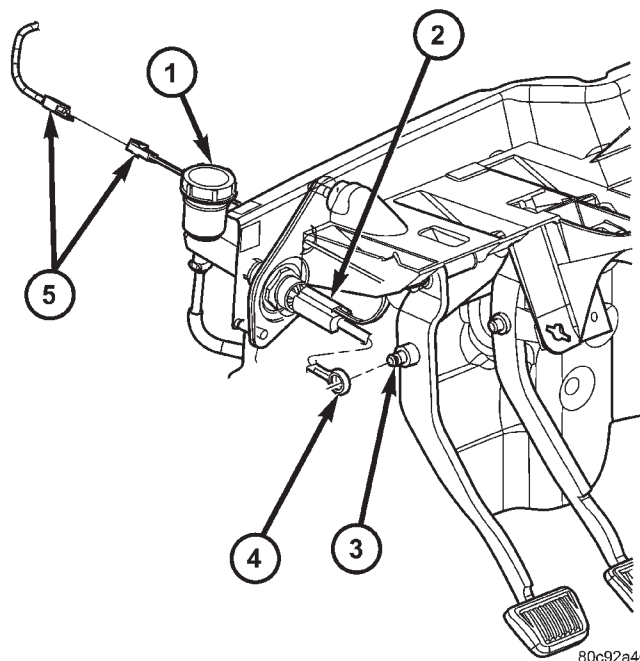

Fig. 10 CLUTCH PEDAL POSITION SWITCH
The clutch pedal position switch is located under the instrument panel. It is attached to the clutch master cylinder push rod (Fig. 10). The wiring harness connection for the switch is made in the engine compartment (Fig. 10).
(1) Locate switch 2-wire electrical connector in engine compartment (Fig. 10). Disconnect wiring at this point.
(2) Check for switch continuity with an ohmmeter while operating clutch pedal up and down. Continu-